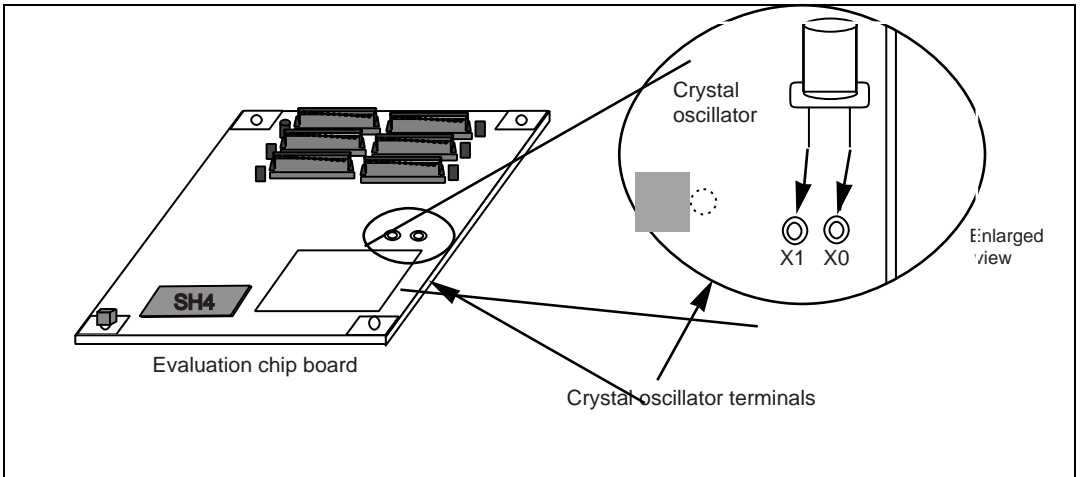

Figure 3.7 Installing the Crystal Oscillator
2. Attach the crystal oscillator into the terminals on the evaluation chip board (figure 3.7).